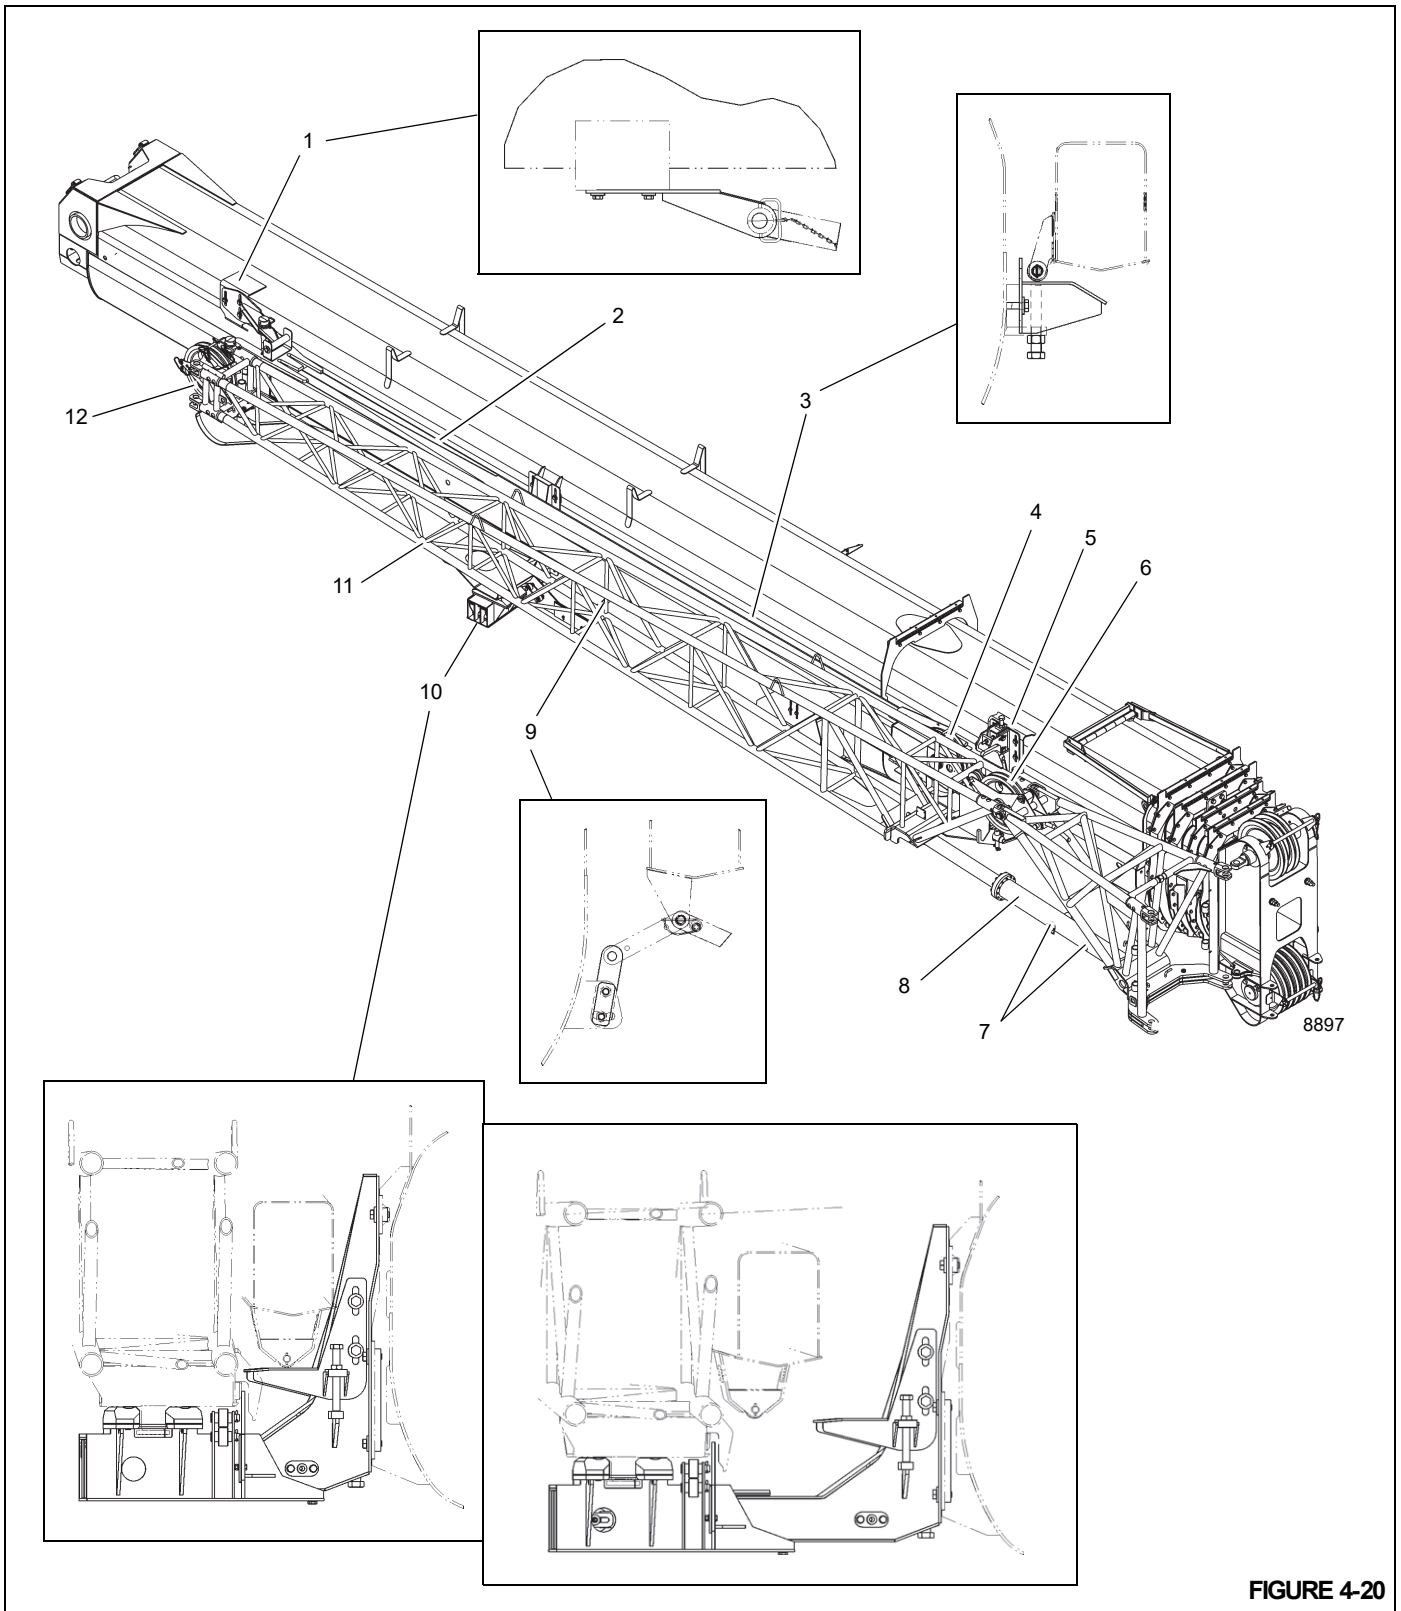

FIGURE 4-20
Remove the clip pin and cable retaining pin at the mast sheave (6, Figure 4-20), then remove the hoist cable. Reinstall cable retaining pins and secure with clip pins.
- e. Connect locking bar (9, Figure 4-20; 1, Figure 4-16) to boom extension base section attachment bar (2) using pin (3). Secure with retaining clip.
- 17. Extend boom approximately 12 in so boom extension base section stowage lugs will line up in front of the middle stowage bracket guide ramp (10, Figure 4-20) and stowage pins (14, Figure 4-20) on the front stowage bracket assembly (5, Figure 4-20) when the boom extension is positioned to the side of the boom base.
- 24. Secure boom extension base section to front stowage bracket (5, Figure 4-20) on boom base using lock hitch pin (13, Figure 4-20). Ensure lock hitch pin is pushed in all the way, then secure with retaining clip.
27. Using control pendant, fully retract middle stowage bracket (10, Figure 4-20).
28. Ensure the two stowage lugs on the boom extension base section are fully engaged with the pins (14, Figure 4-20) on front stowage bracket (5, Figure 4-20).
29. Secure boom extension fly section to rear stowage bracket (1, Figure 4-20) on the boom base using the attachment pin. Secure attachment pin with retaining clip.
31. Remove pin (1, Figure 4-19) from boom base attachment bar (3). Move locking bar (2, Figure 4-19; 10, Figure 4-20) to boom extension base section and install pin (1). Secure with retaining clip.
FIGURE 4-20 continued